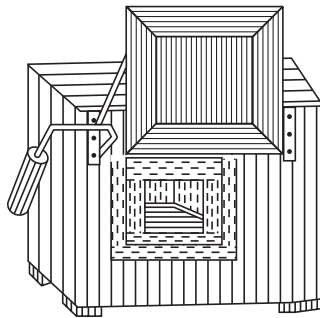

Fig. 14.7 Muffle furnace.
- **Muffle furnace.** It is a type of furnace consisting of an enclosed chamber, made of refractory materials, from which the fuel and its products of combustion cannot come in contact with the materials heated in it (Fig. 14.7).